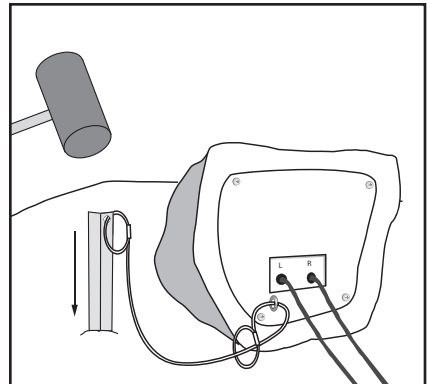

Figure 7d. Drive the stake into the ground.
4. Using a rubber mallet, drive the security stake into the ground close to where the speaker will sit. It must be completely under the surface of the ground. Give cable a gentle tug to make sure stake is firmly planted in the ground (figure 7d).